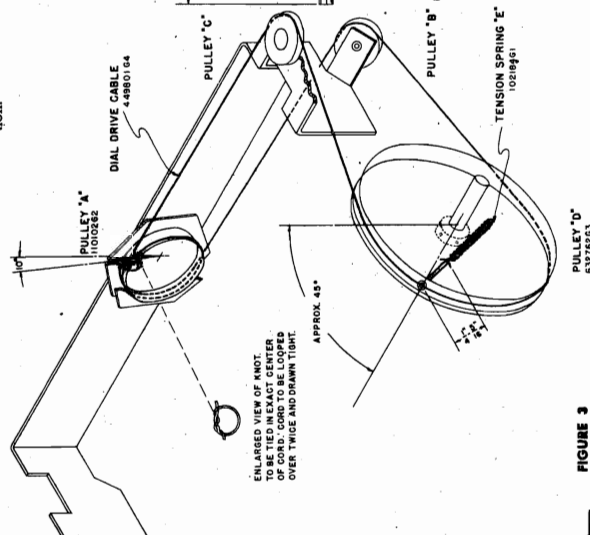

FIGURE 3
2. Check the tuning dial pointer adjustment. When the plates of the tuning condenser are completely meshed, the dial pointer must be in line with the last calibration mark at the low frequency end of the dial. If it is not, loosen the set screws in the hub of pulley "P" shown on Figure 3 and make the necessary adjustment.
Rotate the brass pulley designated "A" in Figure 3 until the dial pointer strikes the stop at the high frequency end of the dial calibration. In this condition the slot in pulley "A" should be approximately ten degrees to the left of being vertical—see Figure 3. If the slot in the pulley is in some other position under the above mentioned conditions, the pointer set screw is probably loose and has allowed the pointer to slip.
Completely unmesh the condenser gang and check the location of the hole or slot in pulley "D". If this hole is not approximately 45 degrees back from vertical as shown on Figure 3, loosen the two No. 6 Allen set screws in the hub of pulley "D" and slip the pulley on its shaft (while holding the condenser gang unmeshed) until the specified adjustment is obtained; then tighten one of the set screws securely. It will be shown later that this is a temporary setting. Next, tie a double knot in the exact center of a 25-inch length of dial cable and fold the cable back on itself so that the knot is at one end. The correct
method for tying this knot is shown as an inset on Figure 3. Grasp the cable near the knotted end and slide it into the pulley slot so that the knot is against the inside rim of the pulley as shown in the sketch. The piece of cable nearest the dial frame should be wound in the direction shown for one-half turn; then wound in the lower pulley "B" around the bottom of the large pulley "D" and into the hole. Pull the cable taut and wrap the end around the small hook on pulley "D" temporarily.